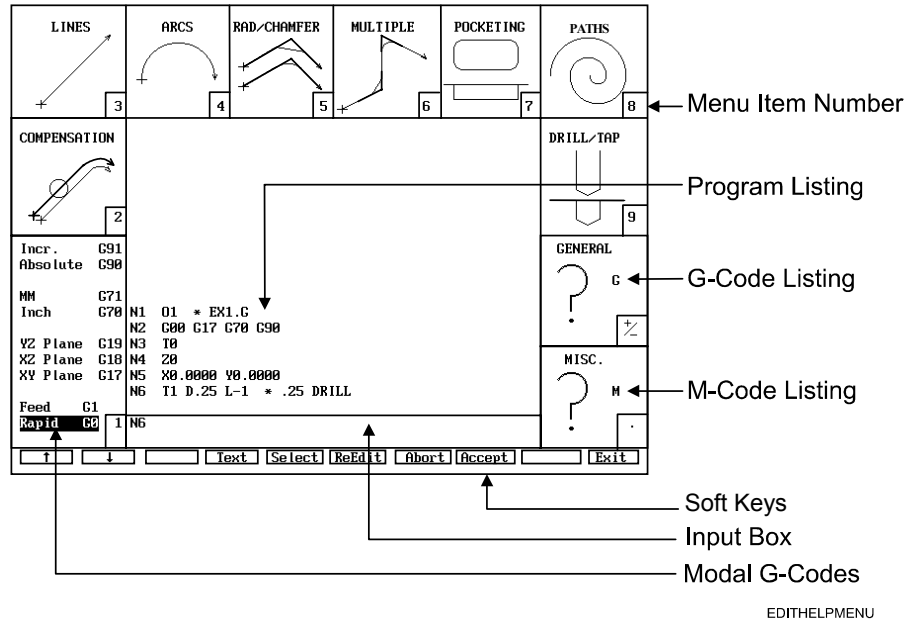

Figure 7-2, Main Edit Help Menu
The Main Edit Help Menu \(Figure 7-2\) displays categories for which Help Menus are available. Refer to **Table 7-1** for a description of Main Edit Help Menu features.
1. In Edit Mode, open the appropriate program. Press **Help (F1)**. The Edit Help Menu activates. Refer to Figure 7-2, Main Edit Help Menu.